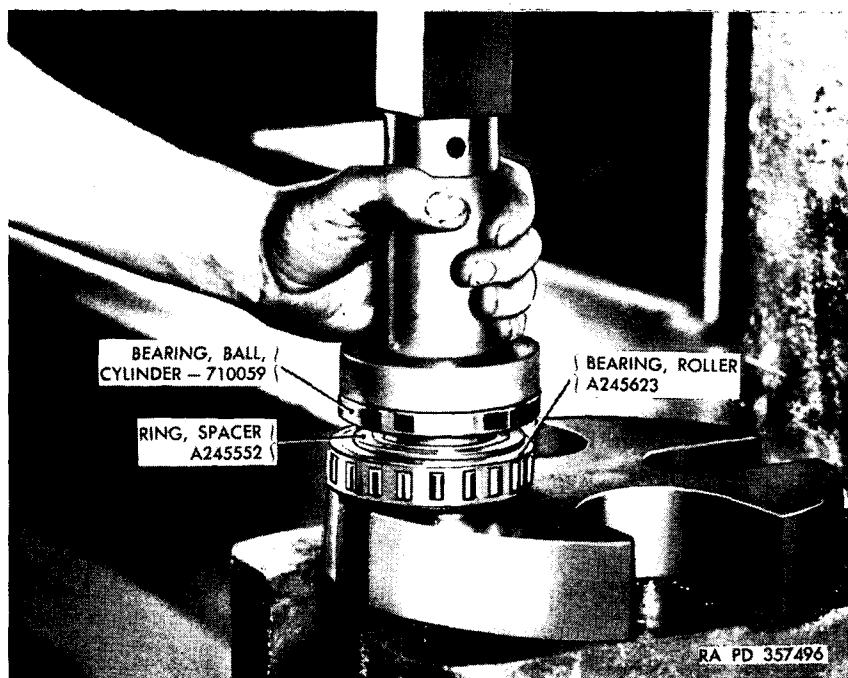

Figure 48. Pressing rear ball bearing onto cylinder, piston, and shaft assembly.
f. ASSEMBLE DRIVE SHAFT, CYLINDER, PISTONS, AND BEARING ASSEMBLY (figs. 41, 47, 48, and 124). Insert fourteen pistons, with beveled ends outward, into cylinder. All pistons should go into cylinder holes far enough to be flush with turn on cylinder. Place cylinder, shaft, and piston assembly in an arbor press (fig. 47). Place roller bearing over the pistons in cylinder and press spacer ring, with hub end toward rear ball bearing, onto cylinder hub. Then press rear ball bearing onto cylinder hub (fig. 48). Arrange rear ball bearing with surface marked "THRUST HERE" away from spacer ring.
b. ASSEMBLE DRIVE SHAFT, CYLINDER, PISTONS, AND BEARING ASSEMBLY (figs. 21, 47, 48, 54, 55, and 128). Insert 14 rolling pistons, with beveled ends outward, into cylinder. All pistons should go into cylinder holes far enough to be flush with turn on cylinder. Place cylinder and shaft assembly in an arbor press (fig. 47). Place roller bearing over the pistons in cylinder and press spacer ring, with hub end toward ball bearing, onto cylinder hub. Press rear ball bearing onto cylinder hub (fig. 48). Arrange rear ball bearing with surface marked "THRUST HERE" away from spacer ring. Place ported